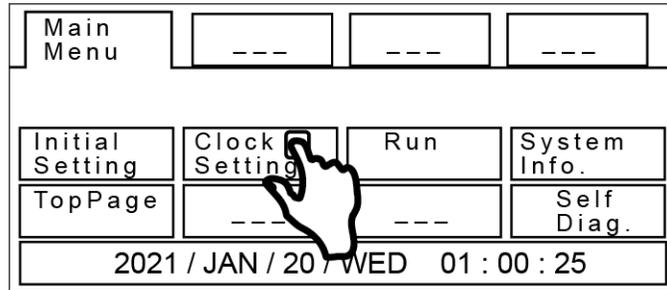

Figure 25. Main Menu Page
- On the Main Menu page touch the Clock Setting button open the Clock Set page (see Figure 25)